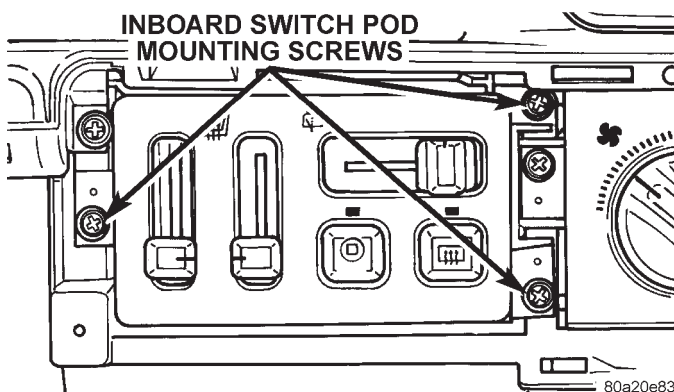

Fig. 16 Inboard Switch Pod Remove/Install
(1) Disconnect and isolate the battery negative cable.
(2) Using a trim stick or another suitable wide flat-bladed tool, pry gently around the perimeter edges of the inboard switch pod bezel to release the snap clip retainers. Remove the bezel from the instrument panel.
(3) Remove the three screws that secure the inboard switch pod to the instrument panel (Fig. 16).